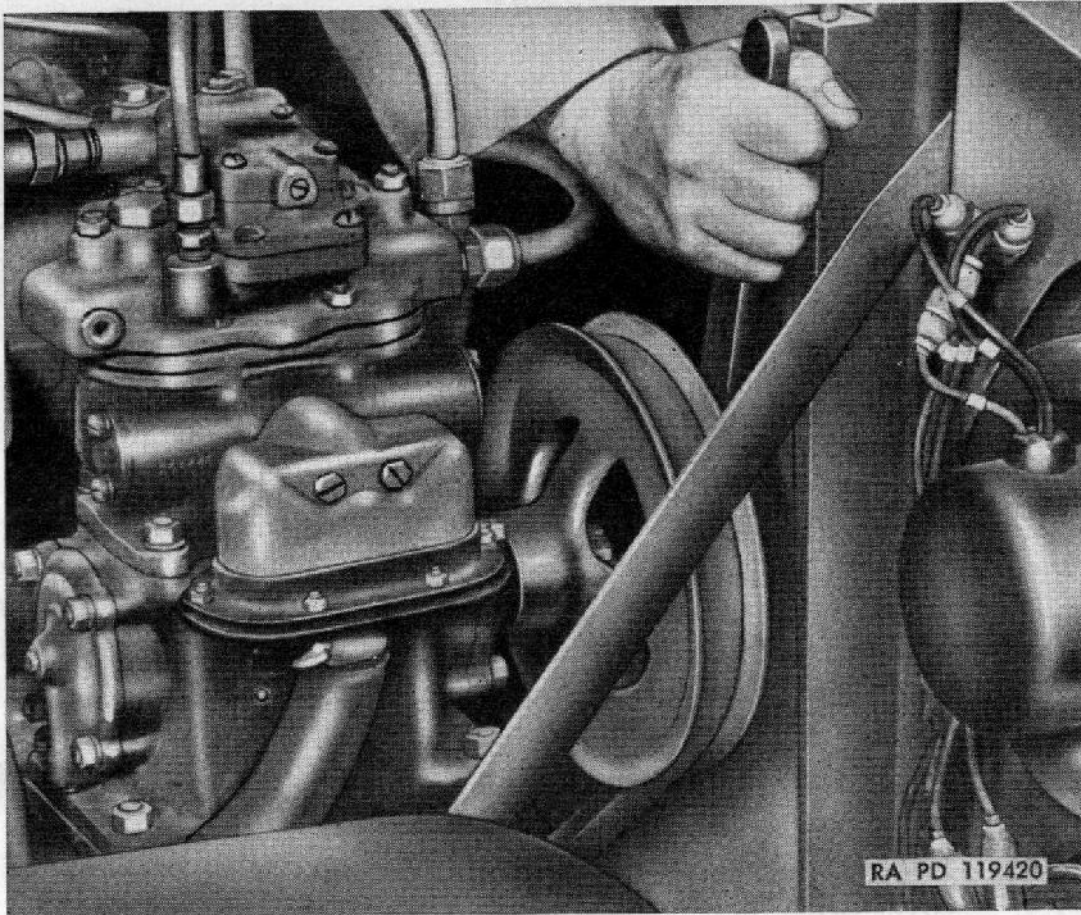

Figure 142. Adjusting air-compressor drive belt with wrench 41-W-3250-510.
- (2) Check clearance of unloader valves. Clearance should be 0.010 to 0.015 inch. If not within these limits, loosen lock nuts on adjusting screws. Turn screws until clearance is 0.012 inch. Tighten lock nuts.
- (3) Install unloader-valve cover with a new gasket.
- b. DRIVE BELT ADJUSTMENT (fig. 142).
- (1) Check compressor drive belt. Belt should have not more than $\frac{1}{2}$ -inch deflection midway between pulleys. Adjust if necessary ((2) below).